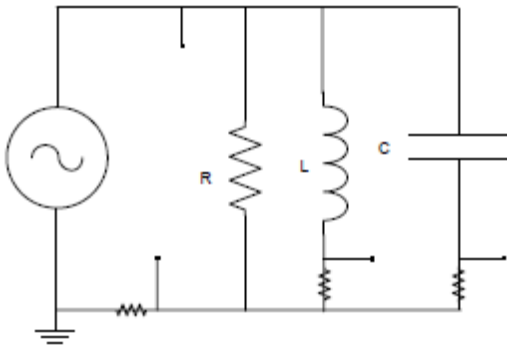

Figure. 3. The experimental parallel RLC circuit. $R= 100 \Omega$, $L= 100 \text{ mH}$, $C= 10 \mu\text{F}$.
5. Construct the circuit of Figure 3. Maintain the settings of the source. Measure the magnitude of the supply voltage. Measure the magnitude and phase (with respect to the supply voltage) of the inductor current, the capacitor current and the supply current.